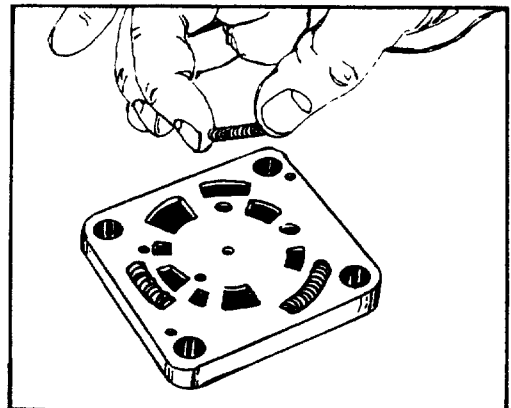

FIGURE 85.
36. Place port manifold (8), valve side up on a clean surface. Install three 3/4 inch (19 mm) springs (9) into the spring pockets. See figure 85.